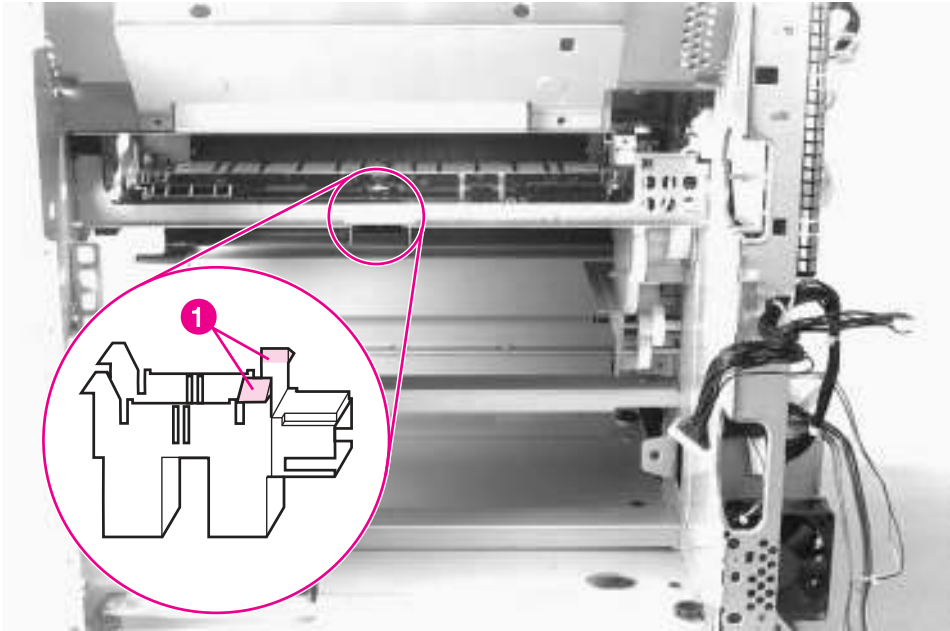

Figure 6-58 **Registration Sensor (PS1)**
- 3 Release the retaining tabs (figure 6-58, callout 1) on the right end of the sensor and rotate the sensor down to free the tabs on the left end of the sensor.